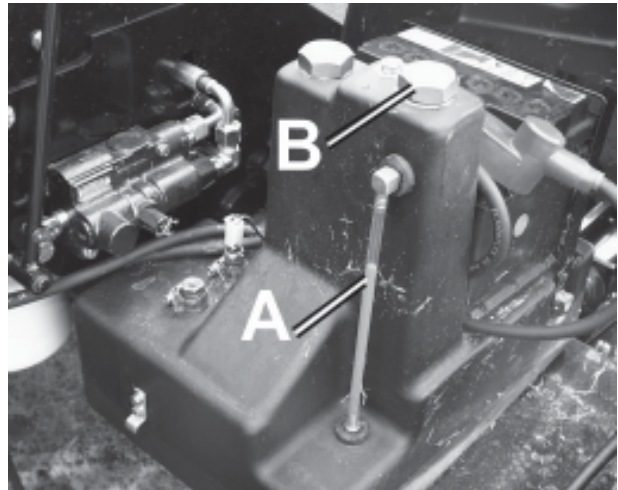

Fig.16
3. Refill tank with approx 38 litres of SAE 10W-30 Oil through one of the brass plugs. (B(Fig.16))
4. Hydraulic Oil should be filled to half way up the sight tube. (A(Fig.16)).